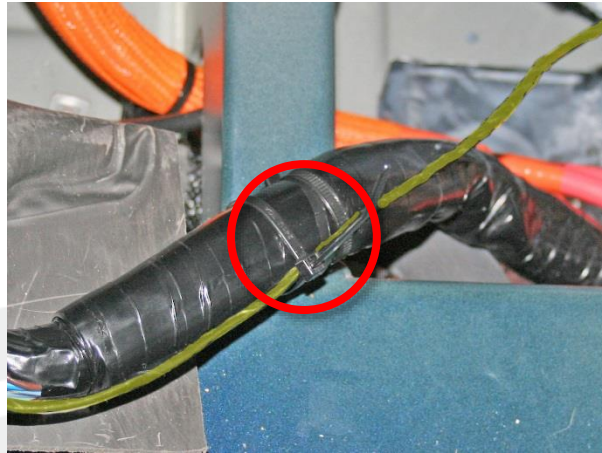

Figure 28 (TPMS harness highlighted)
34. At the rear of the charger bay, use a cable tie to secure the TPMS harness to the main RH main harness (Figure 28). Remove any excess tie.